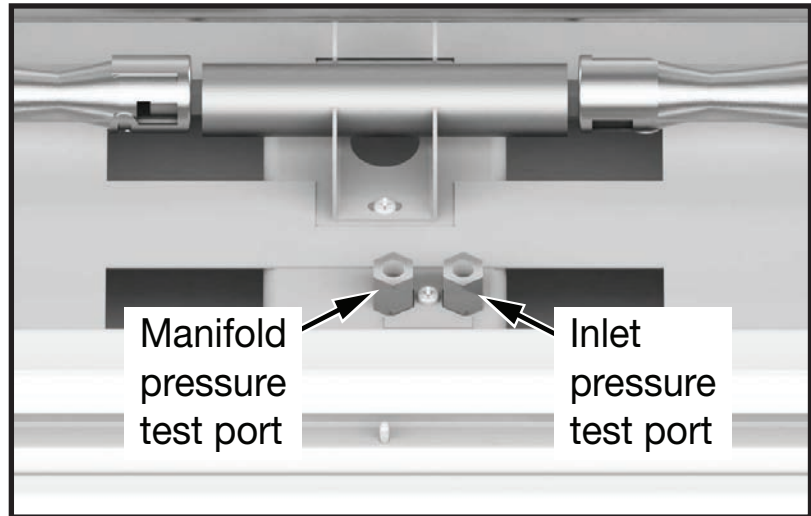

Figure 34: Pressure test ports.
1. Remove the plug from the pressure test port using a 3/16" hex key (Figure 34).